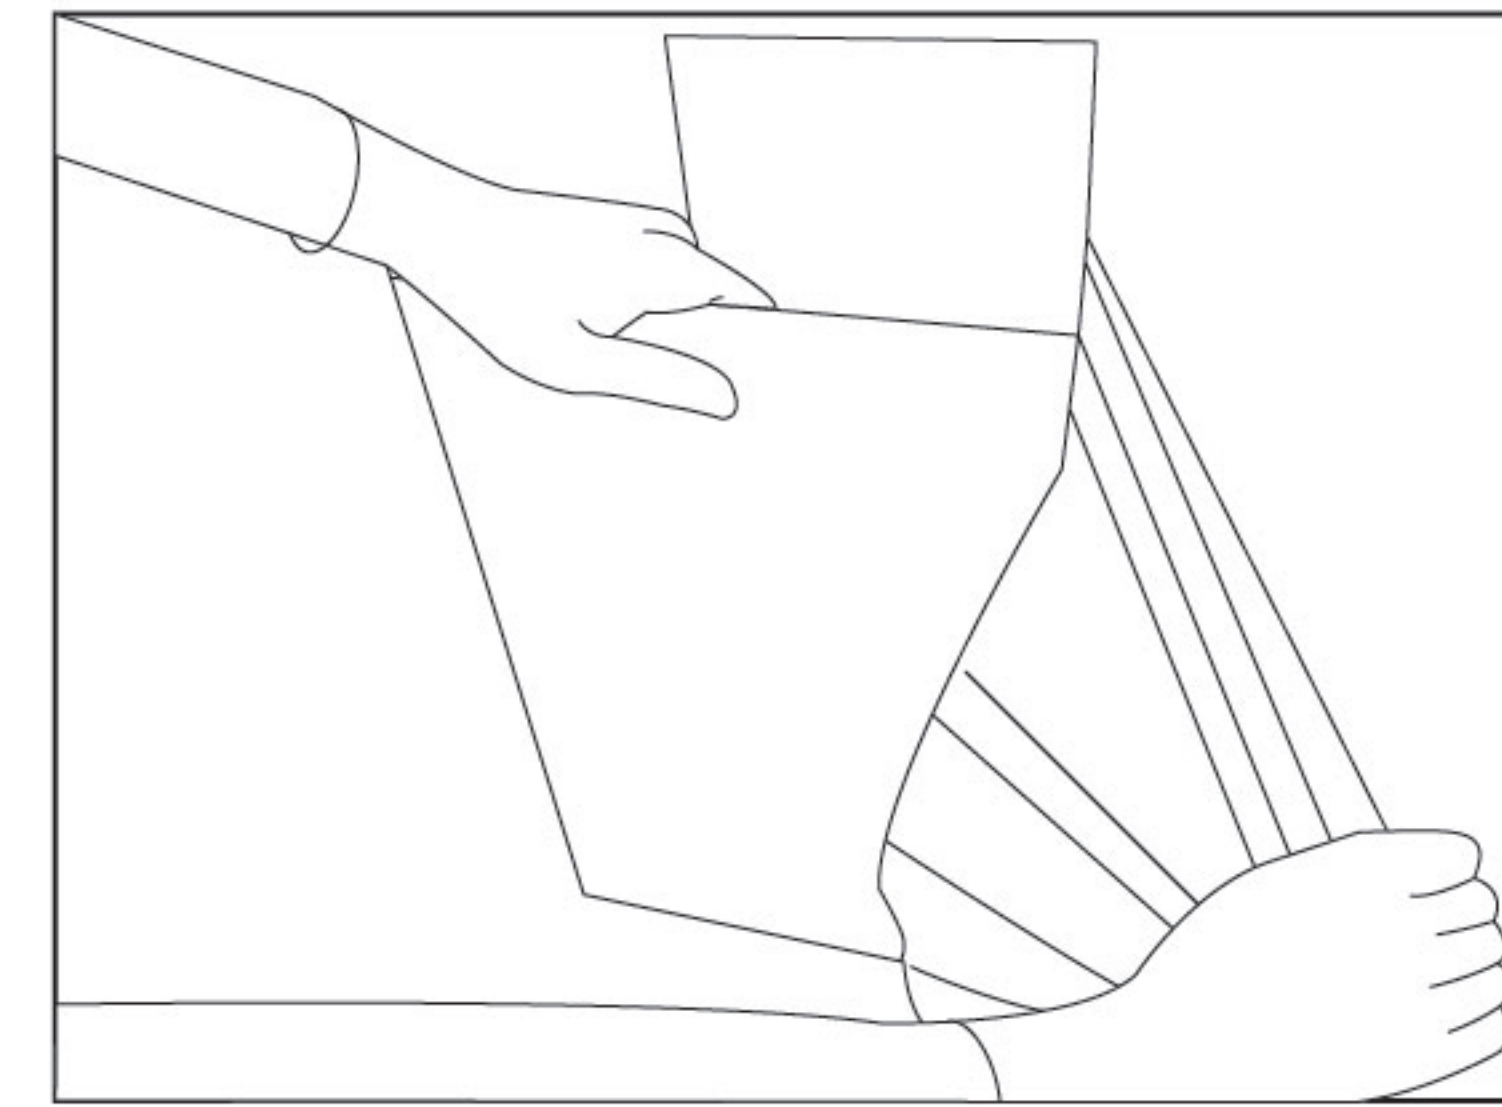

fig15
9. Tear the films: tear off the protective films of the fan cover and the decorative cover; Cautions: wear protective gloves; (fig15)